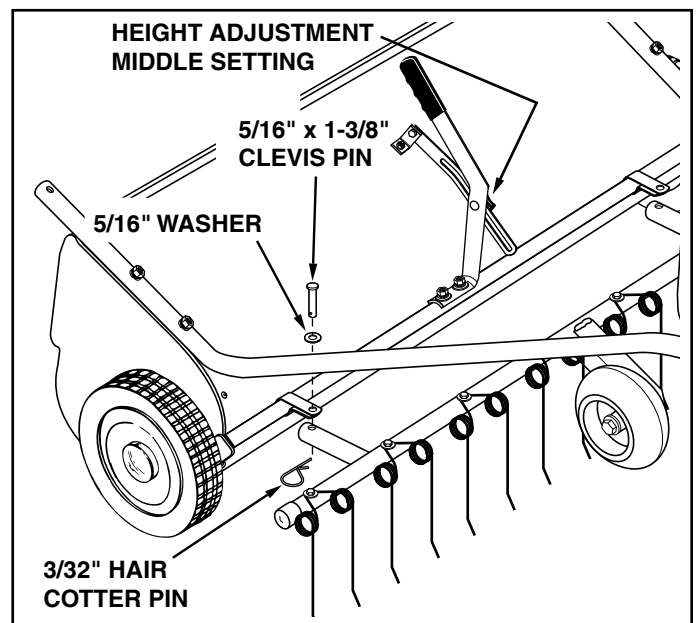

FIGURE 10
- Connect the dethatcher to the conduit clamp using two 5/16" x 1-3/8" clevis pins, 5/16" washers and 3/32" hair cotter pins. See figure 10.